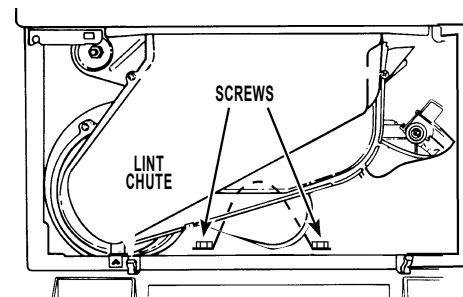

FIGURE 3
4. Open door and remove lint screen. Using a 1/4" nutdriver, remove the two (2) screws attaching the lint chute to the blower housing. Remove the lint chute.
5. In some gas applications, it will be necessary to remove the burner bracket to access the vent assembly. To do this, remove the two (2) screws holding the bracket to the cabinet base. The top of the bracket will then slip out from the burner assembly. To remove the vent assembly, reach through the opening and remove the two (2) screws from the U-bracket on the vent assembly. Remove the vent assembly by reaching in and pulling vent from the blower housing and then slip the vent assembly through the open area in front. Be careful not to damage any wires that are present. See Figure 3.
- Take the vent (w/bracket) assembly – included in kit – and place end into blower housing. Using 1/4" nutdriver, secure the bracket to the cabinet base using the two (2) screws provided. See Figure 3.